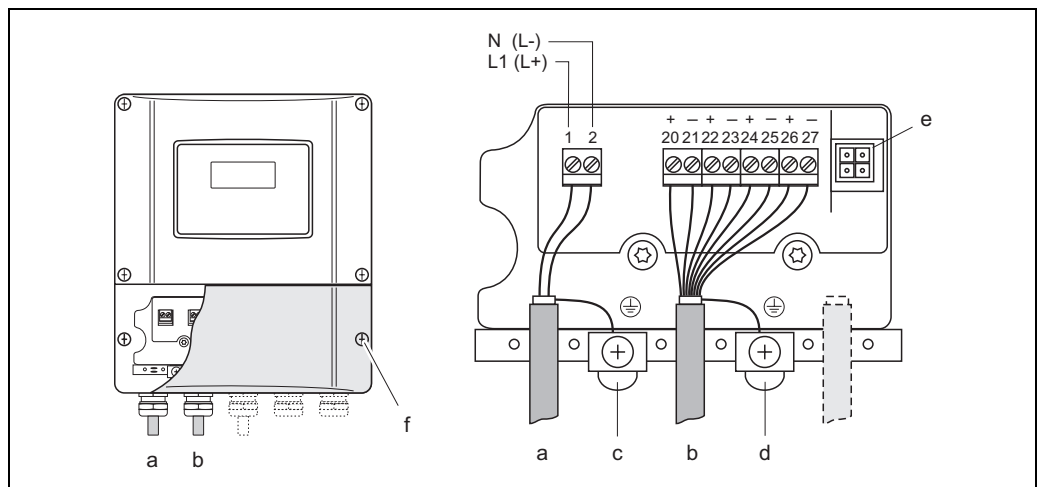

Fig. 20: Connecting the transmitter (wall-mount housing); cable cross-section: max. 2.5 mm2
- Wiring diagram (wall-mount housing) → Fig. 20